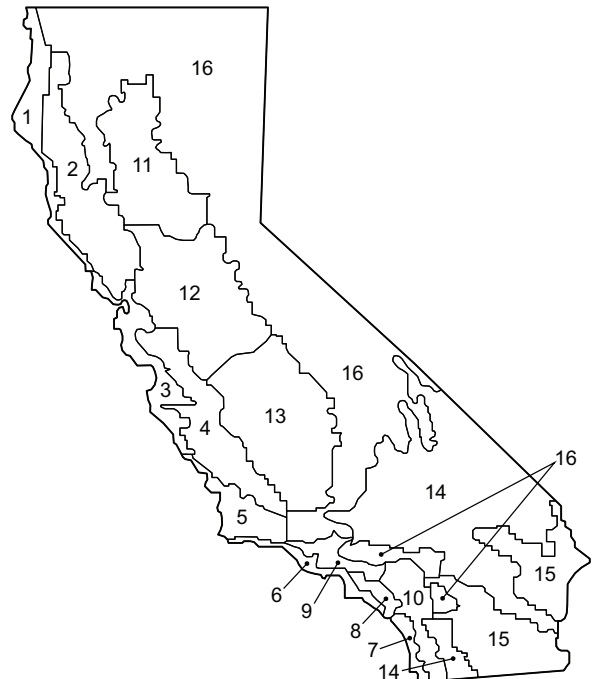

Fig. 87 — California Title 24 Zones
b. Refer to Fig. 87 for map of California Title 24 zones.